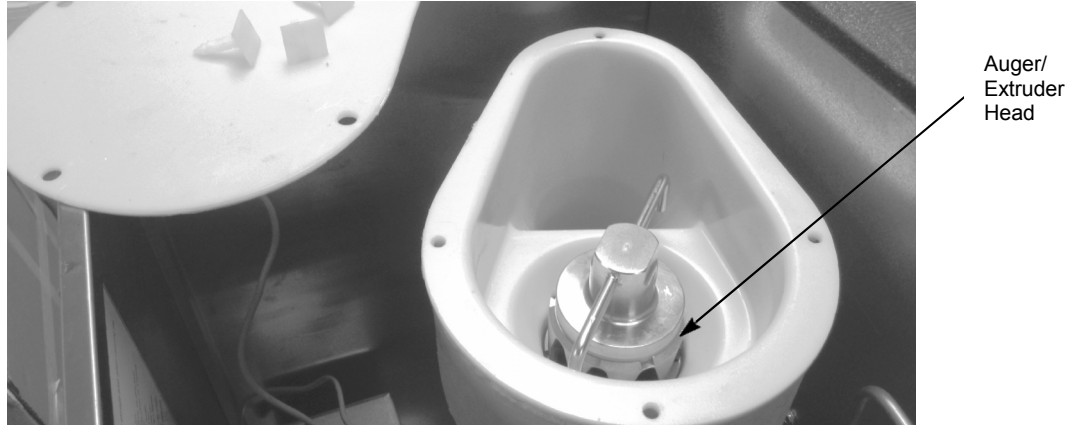

Figure 4.
1. Install the extruder head on top of the evaporator, as shown in Figure 4.